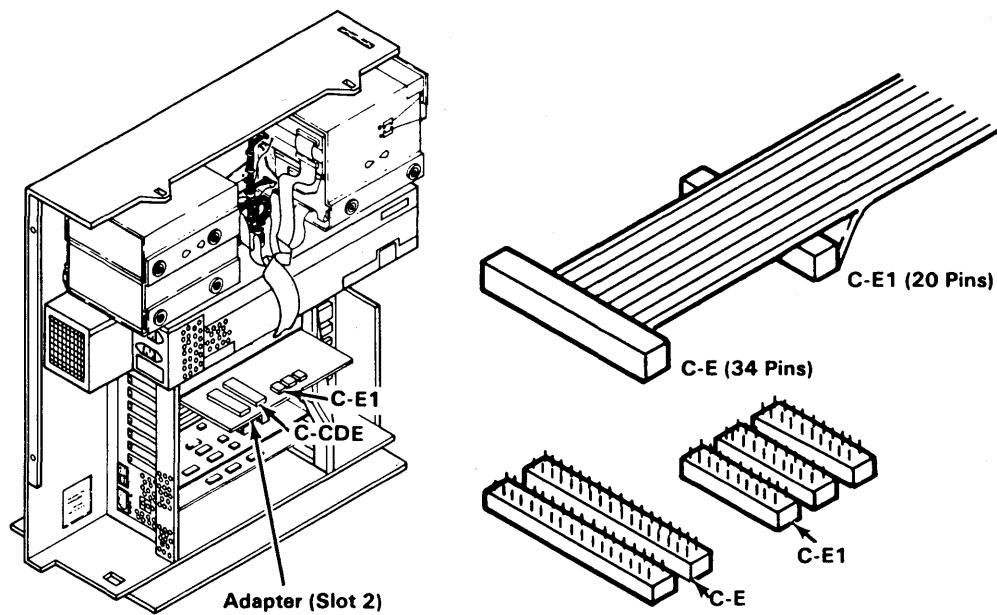

FIGURE 7. ADAPTERS AND CABLE CONNECTORS
- (3) Connect the 20-pin connectors C-C1, C-D1, and (if present) C-E1 to the 20-pin connectors on the adapter. See Figure 7.
- (4) Connect the 34-pin connectors C-AB and C-CDE to the 34-pin connectors on the adapter. See Figure 7.
- (5) Slide the adapter in Slot 1 and replace the screw you removed earlier.
- (3) Connect the 20-pin connector C-E1 to the 20-pin connector on the adapter. See Figure 7.
- (4) Connect the 34-pin connectors C-CDE to the 34-pin connector on the adapter. See Figure 7.
- (5) Slide the adapter in Slot 2 and replace the screw you removed earlier.